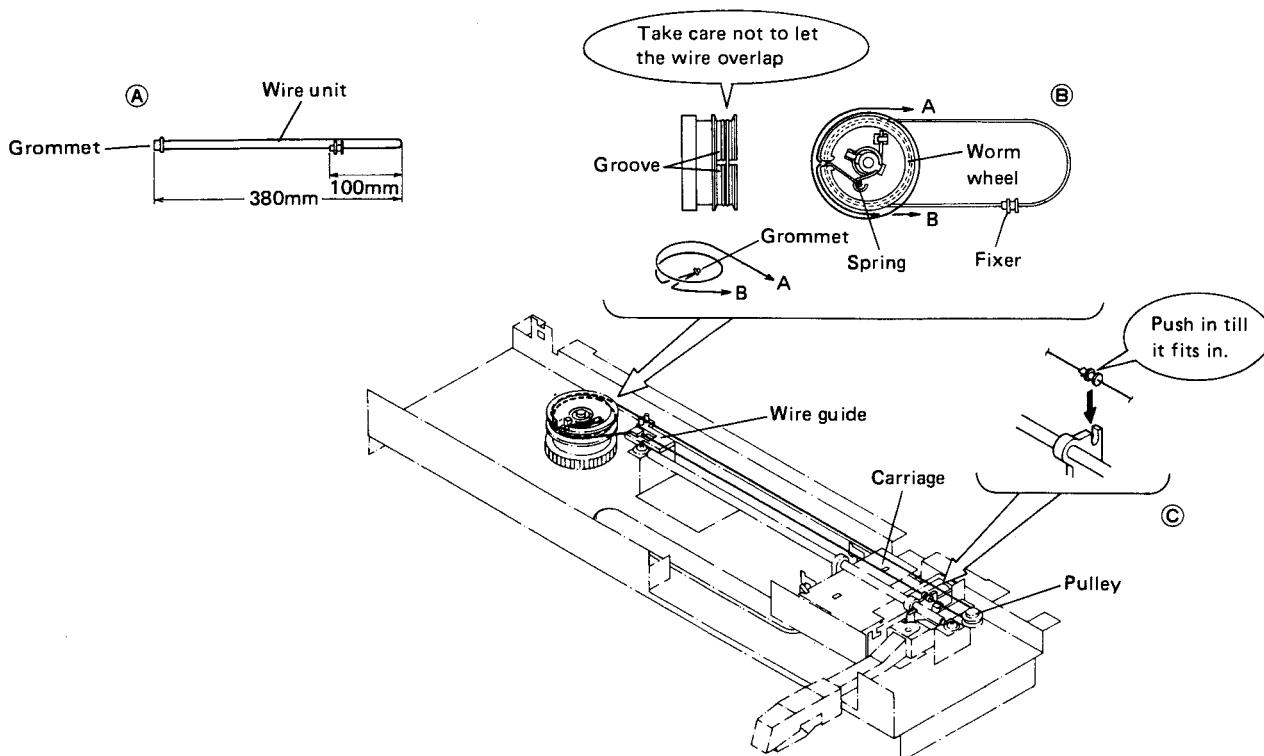

Fig. 5-4 Wire Replacement
- Adjust the length of the wire unit as shown in figure 5-4 Ⓐ.
- Attach the wire unit grommet to the spring of the worm wheel as shown in figure 5-4 Ⓑ. Then wind the wire onto the worm wheel taking care not to let it get caught in the worm wheel groove. Also be careful not to let the wire overlap.
- As shown in figure 5-4 Ⓒ, put the wire around the pulley, and push the fixer into the carriage until it locks with a click.